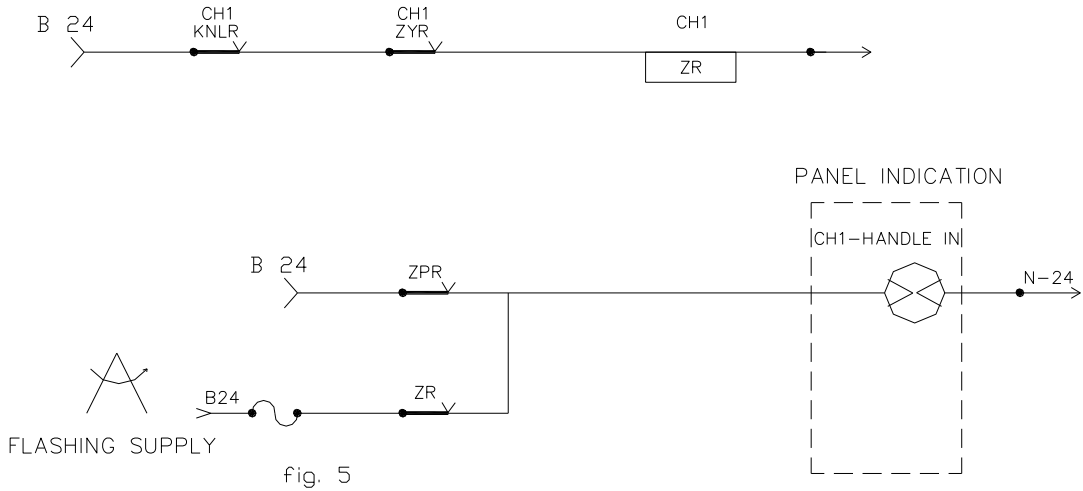

fig. 5
- HR circuit (Fig 5.can be traced. This proves all the conditions required for the, main signal except the overlap requirements .In this circuit the front contact of 10/.C-10 JN is used to complete the C-10 HR pick-up.
- Fig 5 gives the circuit of key extraction and restoration (i.e., pick up circuit of KN-R at gate location and KNLR at the station).If due to any technical snag, gate key can not be taken out to open the gate road traffic will get piled up at the gate. For this in a sealed box at gate site, an emergency key (EM Key)is kept